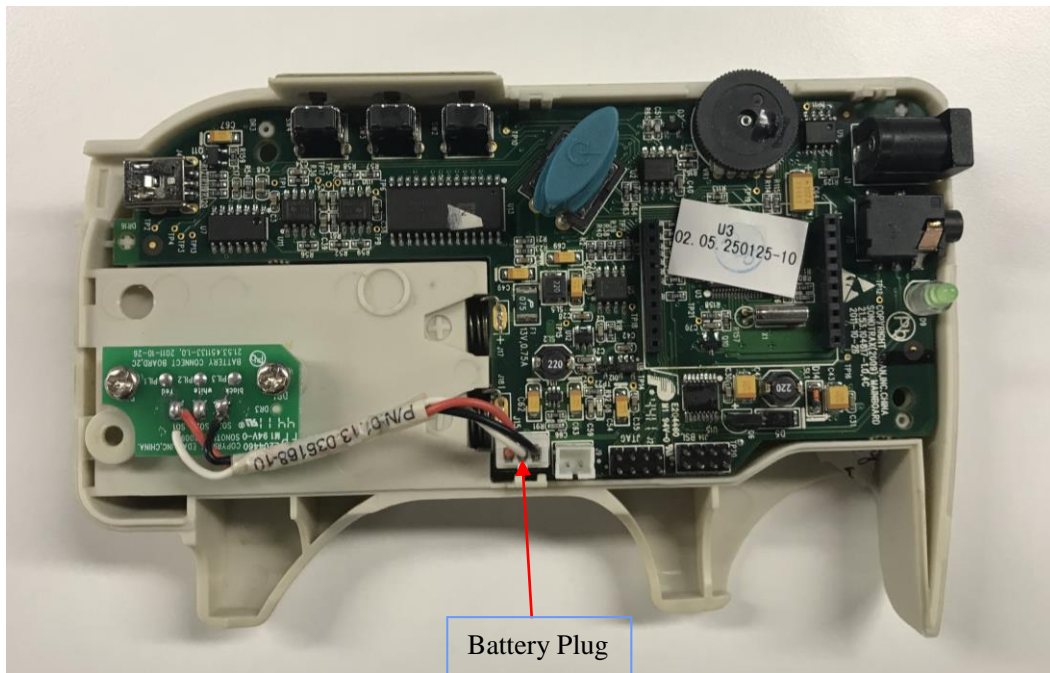

Figure 4-13 The battery plug of SONOTRAX II Pro
- 7) Unplug the battery plug of SONOTRAX II Pro from its socket on the PCB (figure 4-13).